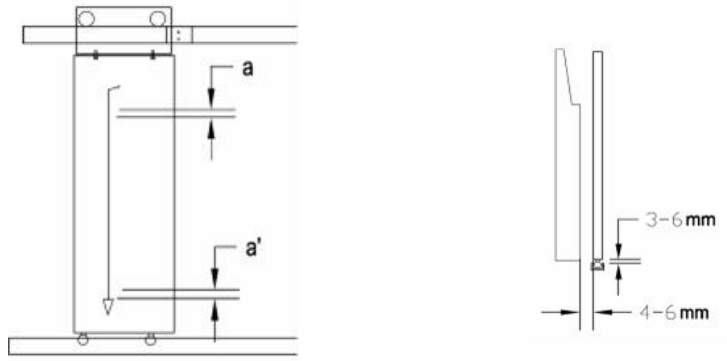

Figure 13
⑥ Adjust the verticality of the door panels and the running clearance of the door panels, and the deviation of the verticality of each door panel is $\leq 1\text{mm}/1000\text{mm}$, see Figure 13. Adjust the verticality of the narrow side of the slow door panel of the car door, and the deviation of the verticality between the lower end of the door panel and the car wall is required to be $\leq 1\text{mm}$. Adjust the running gap between door panels and between door panels and car walls to 4~6mm. Adjust the gap between the door panel and the sill to 3~6mm, see Figure 5.
③ Adjust the distance between the caster wheel and guide rail , the requirement is that the caster wheel is tight with the guide rail, and the caster wheel is obviously rotated when the hanging plate is running.
④ Adjust the verticality of the door panels and the running clearance of the door panels, and the deviation of the verticality of each door panel is $\leq 1\text{mm}/1000\text{mm}$, see Figure 13. Adjust the verticality of the narrow side of the slow door panel of the car door, and the deviation of the verticality between the lower end of the door panel and the car wall is required to be $\leq 1\text{mm}$. Adjust the running gap between door panels and between door panels and car walls to 4~6mm. Adjust the gap between the door panel and the sill to 3~6mm, see Figure 13.